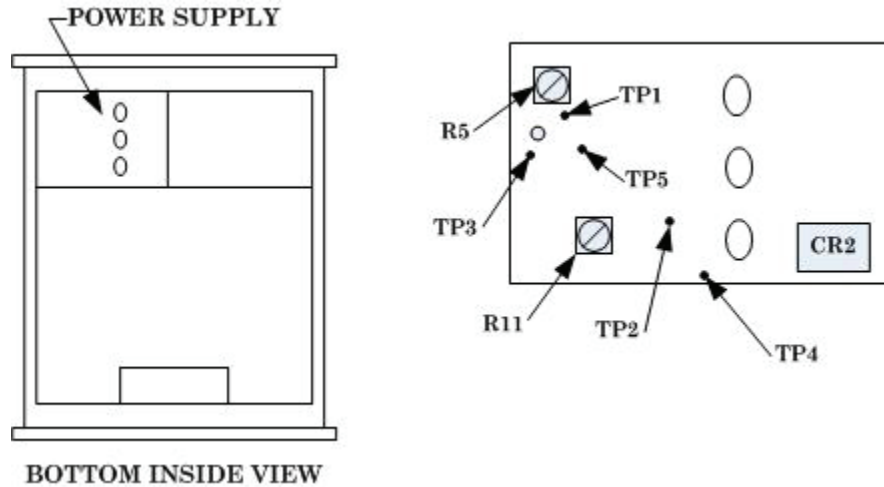

Figure 3. Power Supply, Boonton, Model 9200B.
- (1) Place TI on its top and remove the bottom cover.
(2) Connect multimeter between common and TP3 located on the power supply board (fig. 3). If multimeter does not indicate between 5.202 and 5.198 V dc, perform **b** (1) below.
(3) Connect multimeter between TP2 and TP4 located on the power supply board (fig. 3). If multimeter does not indicate between 140 and 160 mV dc (the polarity of the reading will depend on how the test probes are connected), perform **b**(2) below.
(4) Connect multimeter between common and TP1 located on the power supply board (fig. 3). Multimeter will indicate between +14.4 and +15.6 V dc.
(5) Connect multimeter between common and TP5 located on the power supply board (fig. 3). Multimeter will indicate between -14.4 and -15.6 V dc.
- (1) Adjust R5 (fig. 3) for a $5.200 \pm .002$ V dc multimeter indication (R).
- (2) Adjust R11 (fig. 3) for a 150 ± 10 mV dc multimeter indication (R).